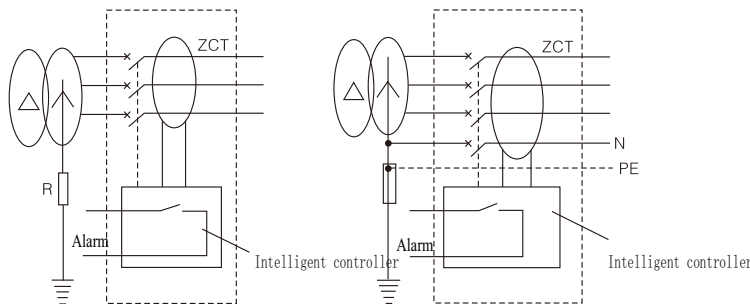
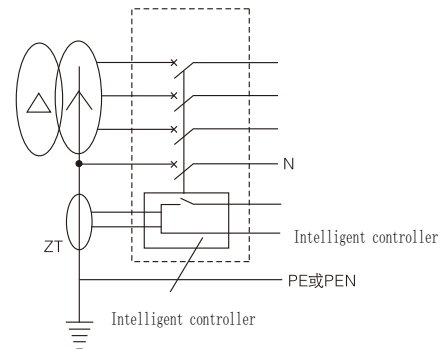

图7 漏电负载电路型
图8 漏电变压器接地线型
Leakage protection mainly takes signals through zero sequence transformers, which have high flexibility and are suitable for grounding protection in several ampere high resistance grounding systems, as well as direct grounding systems. Generally, it only alarms and does not trip. When needed, the circuit breaker can also be disconnected. The connection method is shown in Figure 7 and Figure 8. In addition, there are two types: load circuit (ZCT) or transformer grounding wire (ZT).